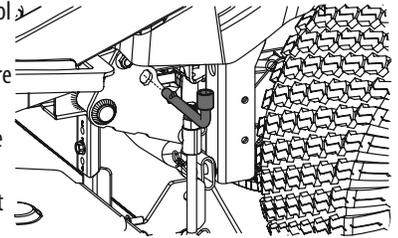

Figure 40
5. Use the deck lift pedal and deck lift knob to place the deck in the lowest position and use the multi-tool to lock the deck lift components in place. There are a pair of alignment holes by the rear wheel on the left side of the tractor (one on the frame and one on the deck lift arm) as shown in Figure 40. Ensure tool is fully inserted properly, locking the deck lift arm in place to the frame.